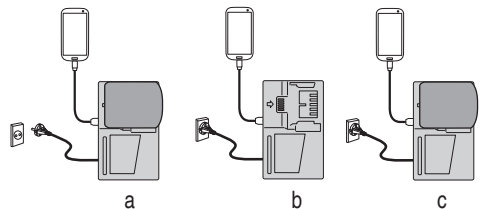

Fig. 7
- Charging a USB device by battery (Fig. 7-a)
- Charging a USB device from a electrical outlet (Fig. 7-b)
- Charging a USB device and battery from a electrical outlet (Fig. 7-c)